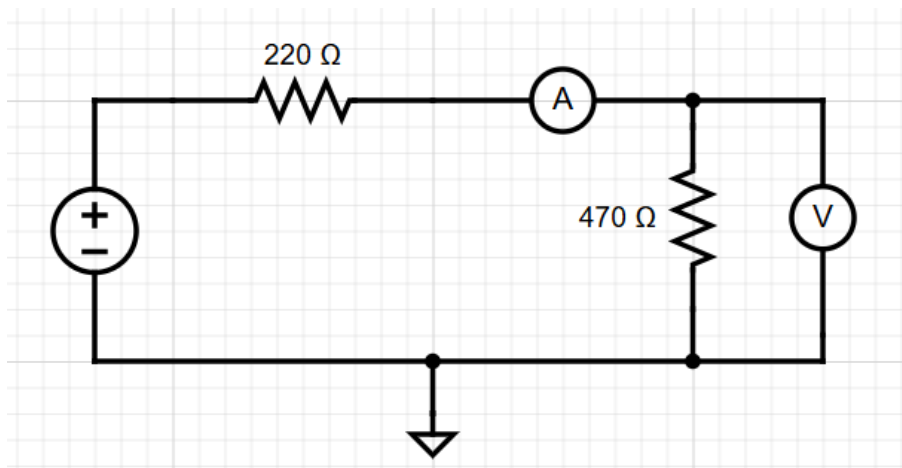

Figure 3.4.1: Circuit for Ohm's Law
1. Connect a variable voltage source across two series resistors as shown in Fig. 3.4.1 .